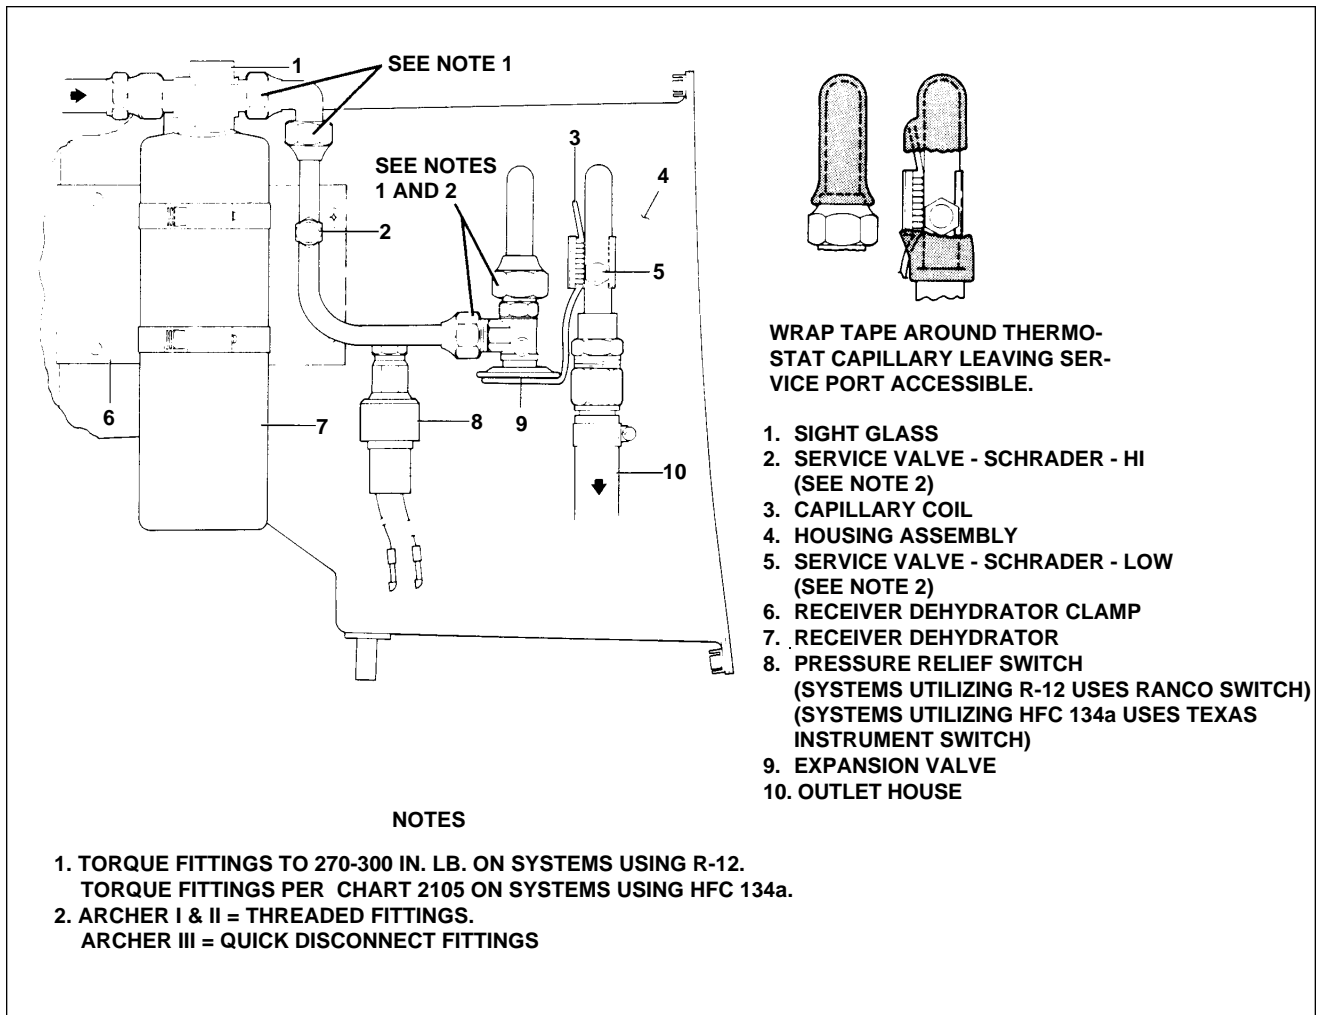

Figure 21-17. Components Installation
a. Expansion Valve Removal (Refer to figure 21-17.)